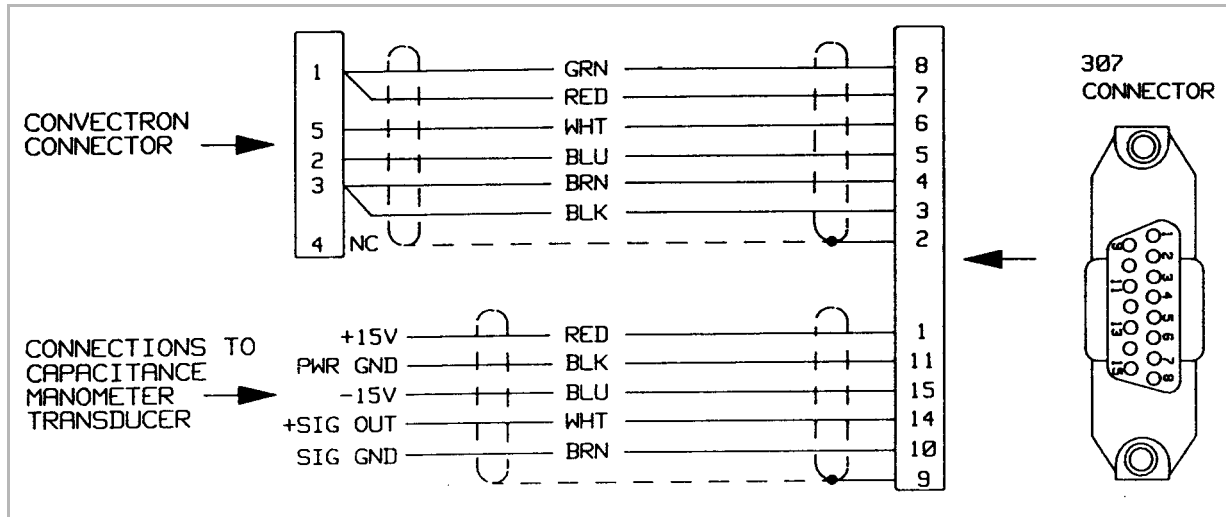

Figure 9-3 Capacitance Manometer Module, Cable.
The cable supplied by Granville-Phillips for this module connects to both a Convector gauge and a capacitance manometer. Since electrical connectors to capacitance manometers are not standardized, Granville-Phillips provides cables terminated with tinned wire leads. Figure 9-3 on page 103 shows the color-coded functions of the wires. Please consult the manual for your capacitance manometer transducer for information on electrical connection, and installation of the transducer in your vacuum system.
1. Be sure the transducer was zeroed properly on initial installation, see your transducer documentation. Connect the cable from the 307 VGC to the capacitance manometer transducer per Figure 9-3 on page 103.
3. Adjust the vacuum potentiometer (116) until the third display line shows a single "0". If the adjustment is turned too far, a minus sign will appear in the display. This proper calibration is achieved when only the "0" appears.